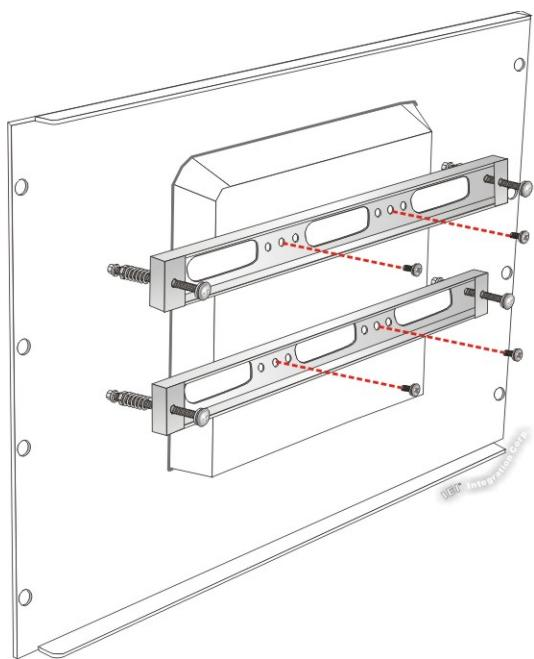

Figure 3-18: Securing Rack Mounting Brackets
Step 5: Secure the two rack mounting brackets to the rear of the panel PC by inserting the four retention screws into the VESA mounting holes and tightening them (**Figure 3-18**).